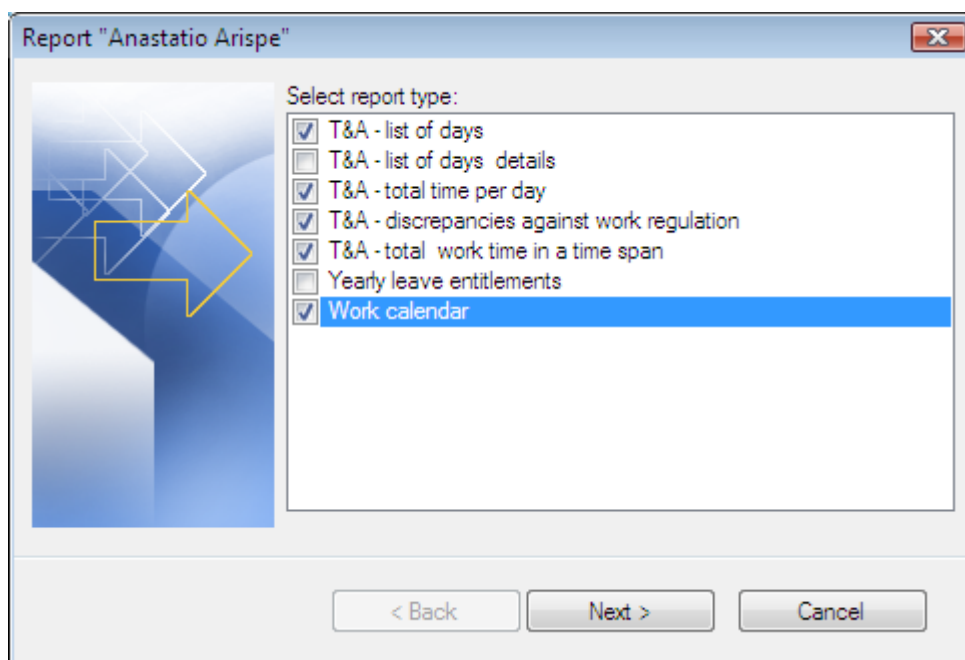

Figure 23. *Selecting report types to be generated*
Step 1. Select report types to generate. In the example below (see Figure 23), the generic report on work time, the report on discrepancies to work regulations (late arrivals, exceeded break limits — e.g. cigarette breaks, and so on), the leave entitlements report (the current state of the leave usage) and the work calendar report, have been selected.